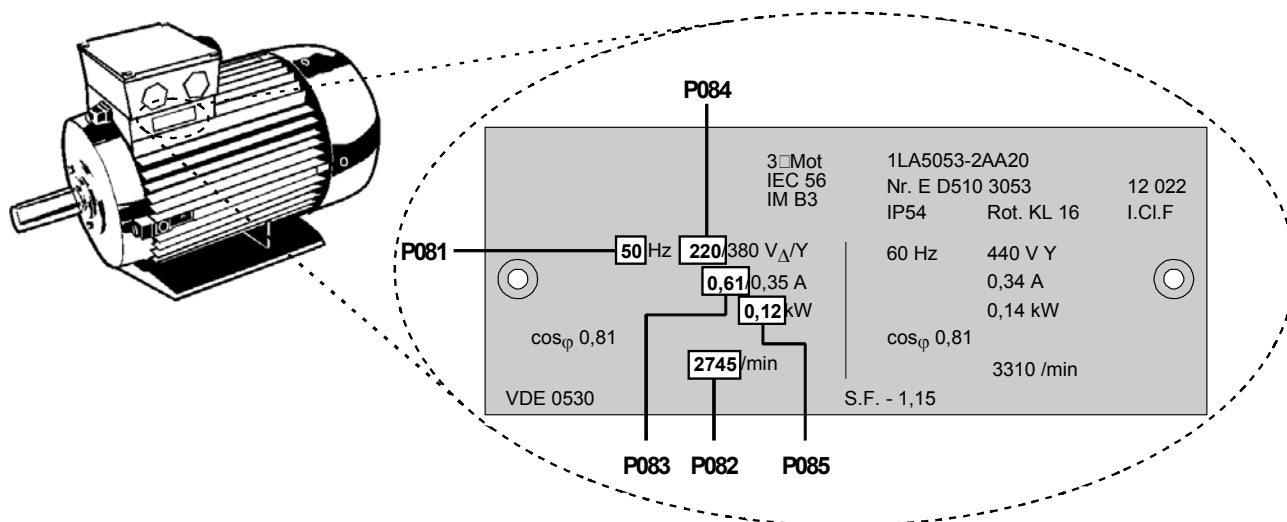

Figure 3.2.1: Typical Motor Rating Plate Example
- (1) The inverter does not have a main power switch and is live when the mains supply is connected. It waits, with the output disabled, until the RUN button is pressed or for the presence of a digital ON signal at terminal 5 (rotate right) or terminal 6 (rotate left) - see parameters P051 - P053.
- (2) If output frequency is selected to be displayed (P001 = 0), the corresponding setpoint is displayed approximately every 1.5 seconds while the inverter is stopped.
- (3) The inverter is programmed at the factory for standard applications on Siemens four-pole standard motors. When using other motors it is necessary to enter the specifications from the motor's rating plate into parameters P081 to P085 (see Figure 3.2.1). **Note: Access to these parameters is not possible unless P009 has been set to 002 or 003.**
- (1) Connect control terminal 5 to terminal 8 via a simple on/off switch. This sets up the motor for clockwise rotation (default).
- (2) Apply mains power to the inverter. Set parameter P009 to 002 or 003 to enable all parameters to be adjusted.
- (3) Check that parameter P006 is set to 000 to specify digital setpoint.
- (4) Set parameter P007 to 000 to specify digital input (i.e. DIN1 (terminal 5) in this case) and disable the front panel controls.
- (5) Set parameter P005 to the desired frequency setpoint.
- (6) Set parameters P081 to P085 in accordance with the rating plate on the motor (*see Figure 3.2.1*).
- (3) Apply mains power to the inverter. Set parameter P009 to 002 or 003 to enable all parameters to be adjusted.
- (4) Set parameter P006 to 001 to specify analogue setpoint.
- (5) Set parameter P007 to 000 to specify digital input (i.e. DIN1 (terminal 5) in this case) and disable the front panel controls.
- (6) Set parameters P021 and P022 to specify the minimum and maximum output frequency settings.
- (7) Set parameters P081 to P085 in accordance with the rating plate on the motor (*see Figure 3.2.1*).